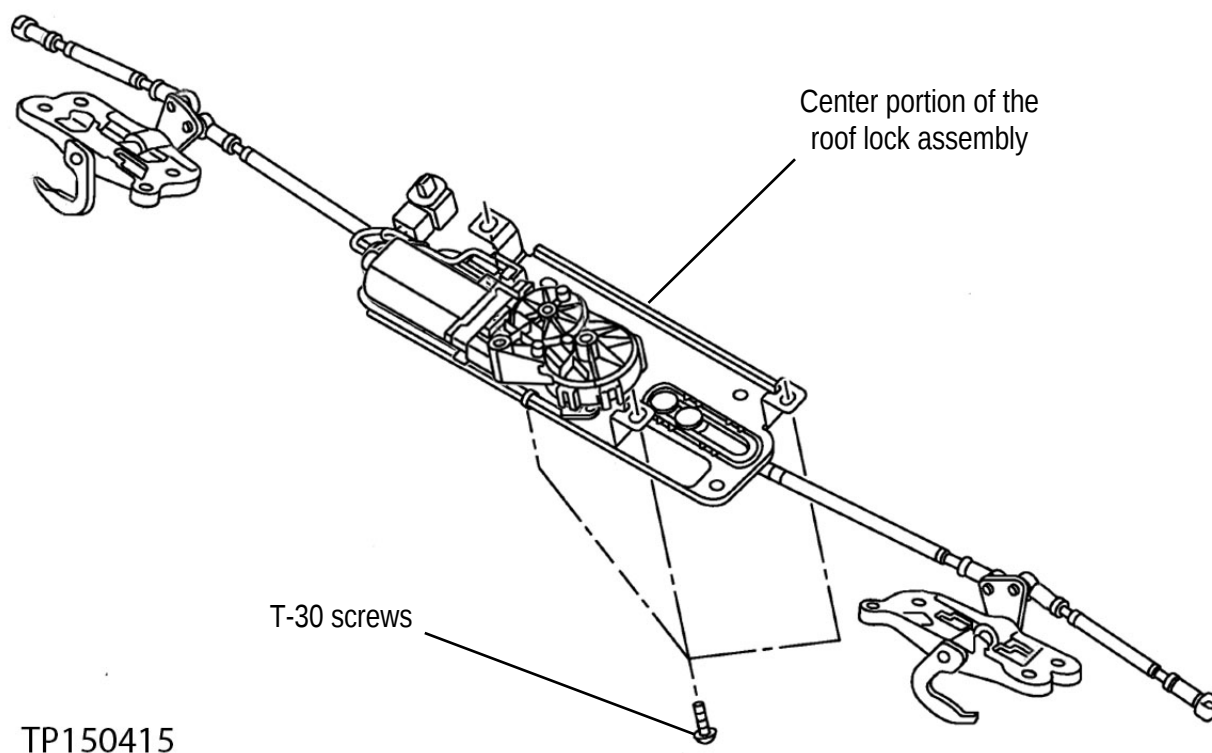

Figure 9a
2. Once accessed, remove all three (3) T-30 Torx screws holding the center portion of the roof lock assembly (see Figure 9a).